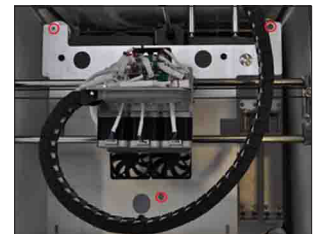

Fig. 103
5. Using the 3mm hex driver from the tool kit, adjust the height of the Print Pad bolts (Fig. 103) to make each side level.